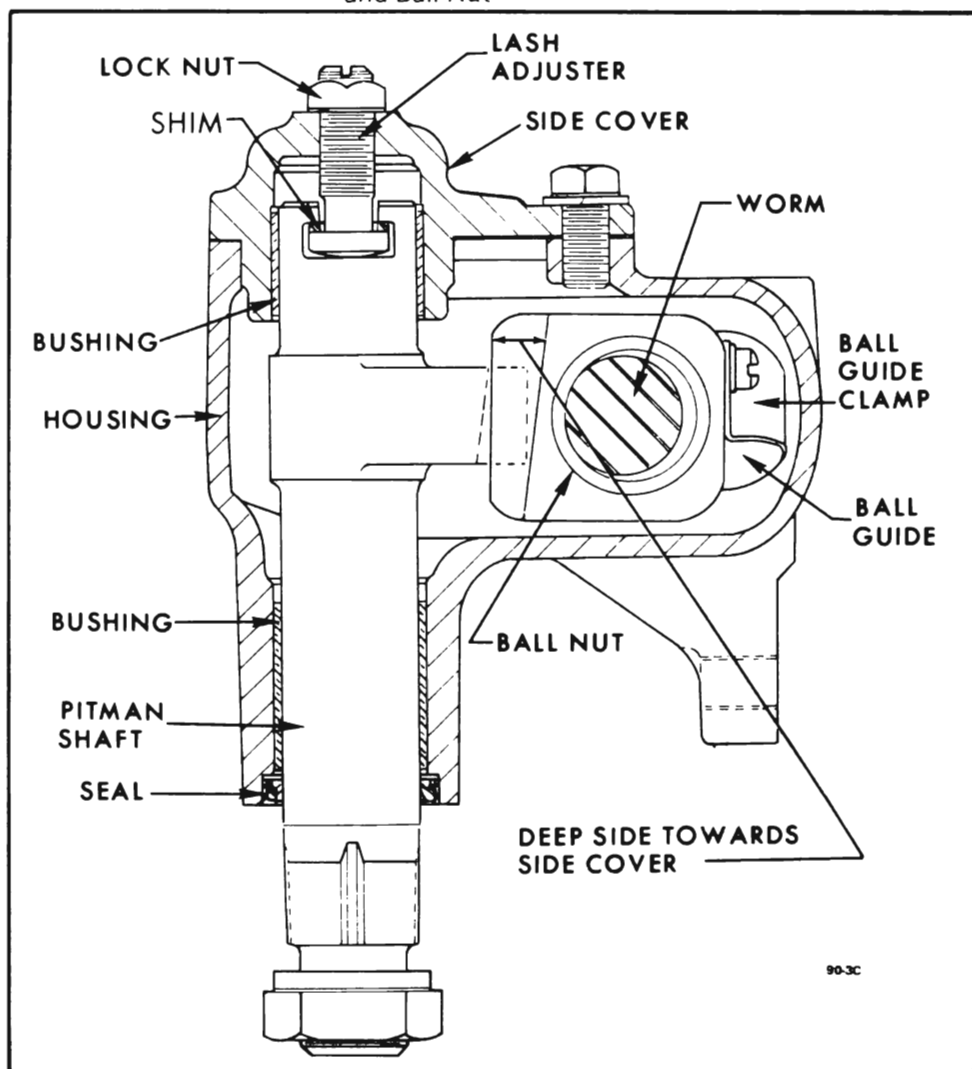

Figure 90-5 Steering Gear - Sectional View
Teeth on the ball nut engage teeth on the pitman shaft sector. The teeth on the ball nut are made so that a "high point" or tighter fit exists between the ball nut and pitman shaft sector teeth when front wheels are in the straight-ahead position. The sector teeth are slightly tapered so that a proper lash may be obtained by moving the pitman shaft endways by means of a lash adjuster screw which extends through the gear housing side cover. The head of the lash adjuster and a selectively fitted shim fit snugly into a T-slot in the end of the pitman shaft, so that the screw also controls end play of shaft. See Figure 90-5.
1. Position ball nut over worm shaft so that deep side of teeth will be toward side cover when installed in gear housing. See Figure 90-5. Install 19 balls in each circuit (rock worm shaft slightly to aid in installing balls). Place 6 balls in each return guide, using grease to hold balls in place. Install return guides, clamp and screws. Rotate worm through its complete travel several times to insure balls are installed correctly and rotate freely.